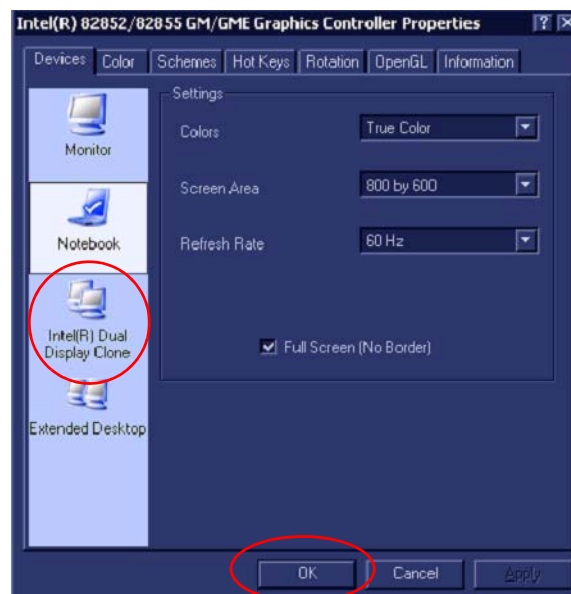

Figure 3-23 Intel® Dual Display Clone
- 9.) Select the **Intel® Dual Display Clone** icon and press **OK** - see Figure 3-23.